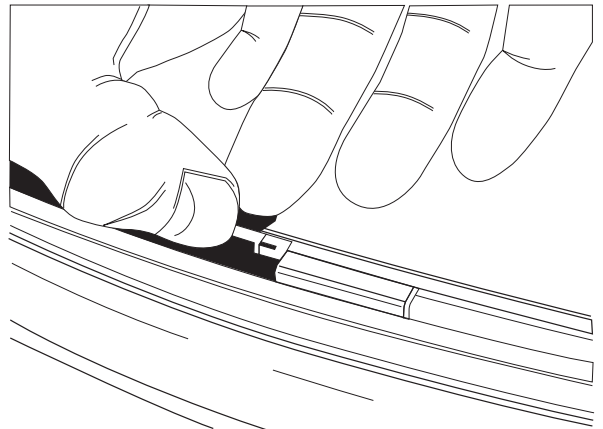

Fig. 32 — Unlocking the Segment Retaining Brackets
1. Unlock and open the segment retaining brackets on both sides of the selected segment opening. Refer to Fig. 32.